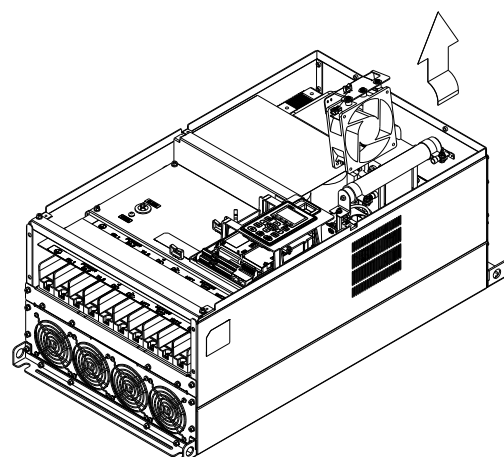

Figure 4
3. Loosen the screws and remove the fan. (figure 3 and figure 4)